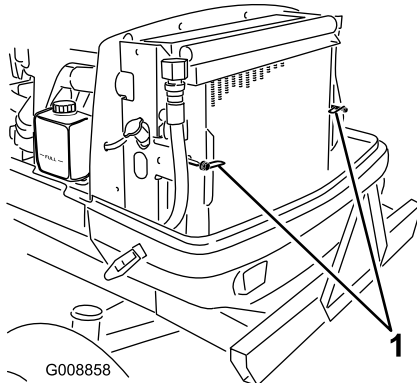

Figure 79
2. Rotate the latches (Figure 79) securing the oil cooler to the frame.